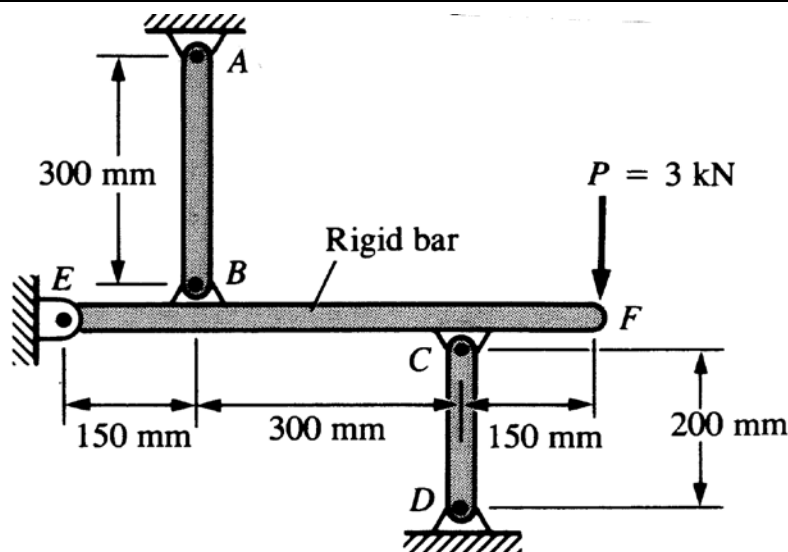

Fig. P1
- 1) Determine the stresses in members AB ( $A = 80 \text{ mm}^2$ ,  $E = 70 \text{ GPa}$ ) and CD ( $A = 30 \text{ mm}^2$ ,  $E = 210 \text{ GPa}$ ) shown in Fig. P1. [Secs. 4.4 & 4.5] (20 pts.)